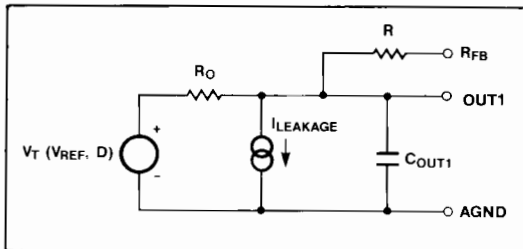

Figure 2. MX7548 Equivalent Analog Output Circuit
Figure 2 shows the equivalent circuits for the MX7548 analog section. The $I_{LEAKAGE}$ current sources represent junction and surface leakage currents. The equivalent output resistor of the DAC is R_O , which varies with digital input code from $0.8R$ to $2R$ (infinite at zero code), where R is typically 11k Ω . Capacitor C_{OUT1} represents the capacitances of the switches used in the R-2R ladder. When inputs are switched from low to high, the capacitance at OUT1 changes from about 40pF to 100pF. This capacitance is code-dependent and is a function of the number of ON switches that are connected to the output. $V_T(V_{REF,D})$ is the equivalent voltage source controlled by V_{REF} and the digital input code (D).